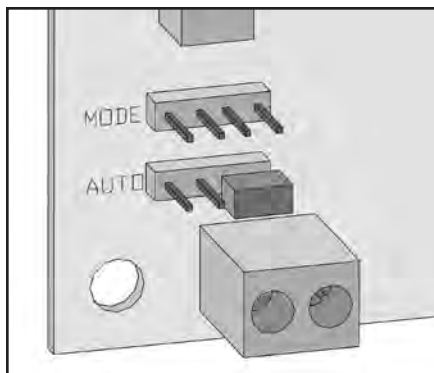
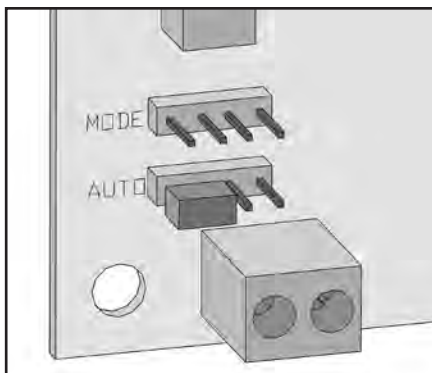
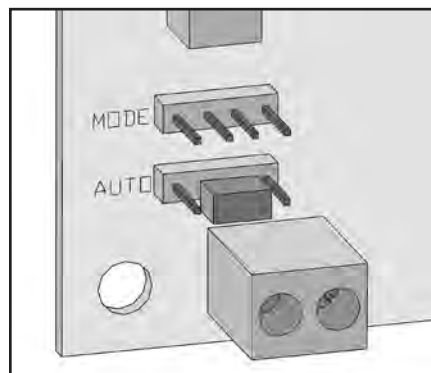

Figure 12: Auto pins set-up MANUAL.
Figure 13: Auto pins set-up ON/OFF.
Figure 14: Auto pins set-up HI/LOW.
This control board can be placed into three (3) different modes: Full Auto ON/OFF, High/Low Thermostat or Manual Mode. From the factory the far right AUTO pins are jumped and the control board is in manual mode operation (see Figure 12). If the far left AUTO pins are jumped the circuit board is in Full Auto ON/OFF mode (see Figure 13). When the center AUTO pins are jumped the unit is in the HI / LOW thermostate mode (see Figure 14), the unit will be taken to a low or idle setting when the thermostat is not calling for heat. When the thermostat calls for heat, the unit will go to the setting that is displayed on the control board Heat Indicator.